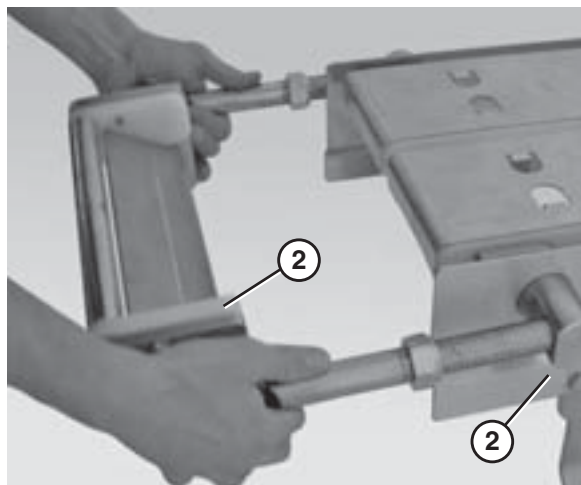

Figure 88
4. Slide the nose bar tail assembly (Figure 88, item 1) out of the take up blocks (Figure 88, item 2).